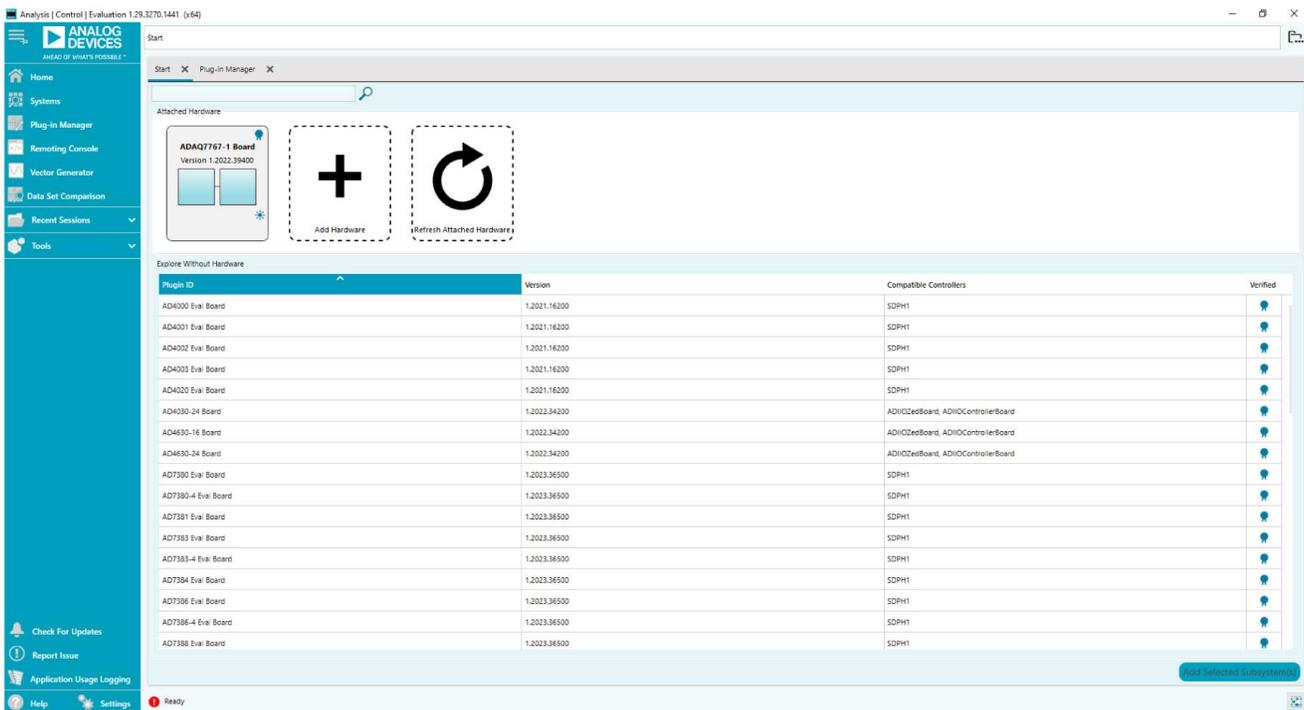

Figure 17. ADAQ7767-1 Board ACE Software Main Window
1. From the **Start** menu, select **All Programs > Analog Devices > ACE > ACE.exe** to open the main software screen (see Figure 17).